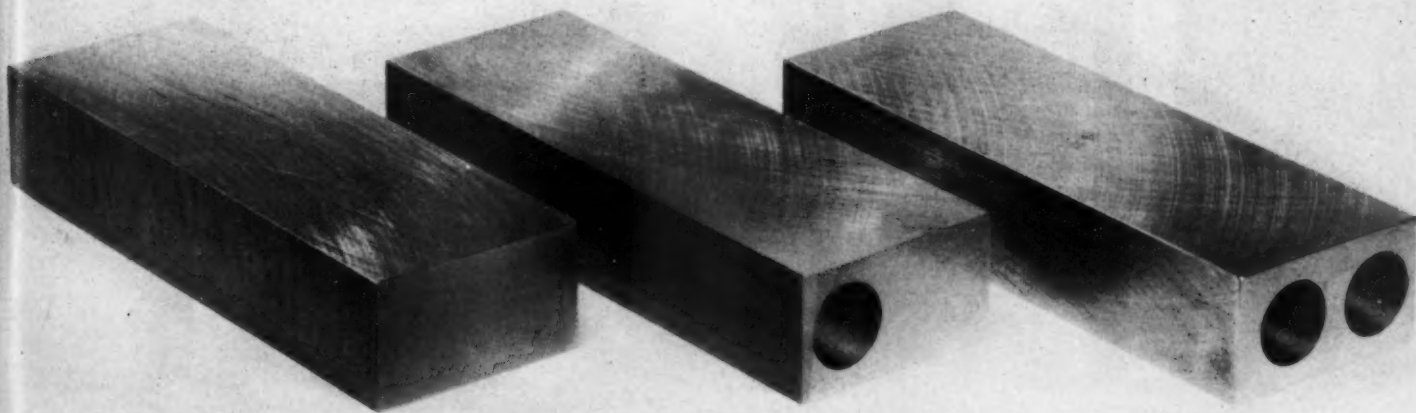

**Fig. 1 — Deep-hole drilling a .30-caliber rifle barrel of 4137 steel**
**P**ROBABLY the most traditional and best known use of deep-hole drills is for the drilling of gun barrels, *Fig. 1*. Today modern drills made either from high-speed steel or from tool steel with cemented carbide inserts are doing more than just barrel drilling. They are in daily use by automotive, aircraft, farm equipment, machine tool, arms and other manufacturers.